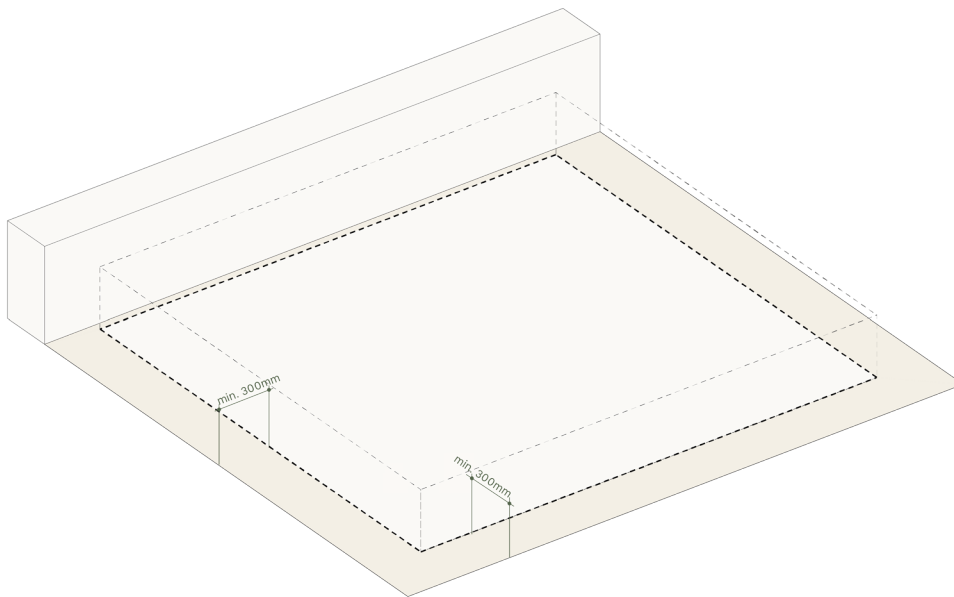

Fig. 1
- The base should extend at least 300 mm beyond the planned decking area (see Fig. 1).